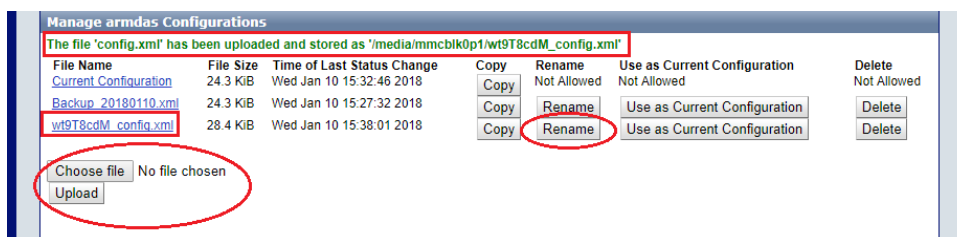

Figure 34: Choose new file to upload
3. **The Upload Panel:** While the *Configuration List* allows downloading configurations from the device by clicking on the name, this part of the screen provides the possibility to upload a configuration to the web interface by selecting a configuration file and using the **Upload Configuration** Button. As can be seen in Figure 34, after a successful upload a new file is shown in the Configuration List and the name of the newly available configuration is written at the top of the list. (The name of new configuration will be created from a random string followed by "\_config.xml"). The configuration can then be changed by clicking on **Rename**. Note that the upload panel might look different depending on the browser in use.